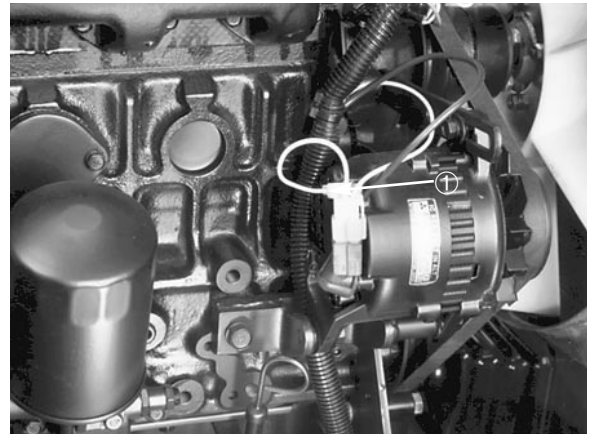

Figure 2
3. Remove the dipstick, wipe it clean, reinstall it into the fill tube and pull it out again; the oil level should be up to the FULL mark (Fig. 2).